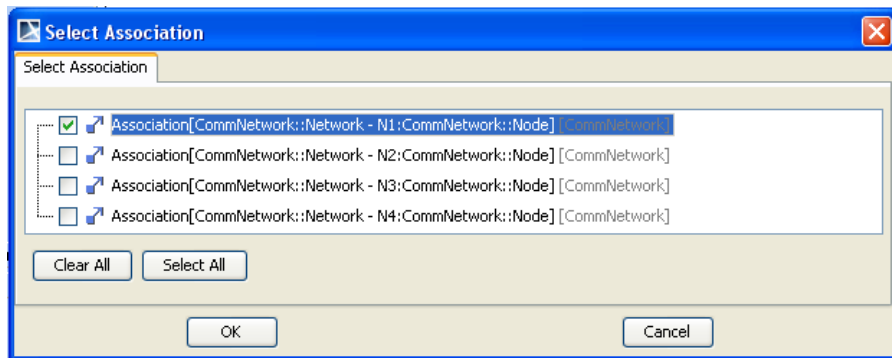

Figure 5.13 Select Association window assigning StartNode instance to N1
- vii. Using the connector icon on the floating toolbar, create link from Net01 to StartNode. A Select Association window appears, as in Figure 5.13. Check the first line to assign the StartNode instance to the N1 part property.